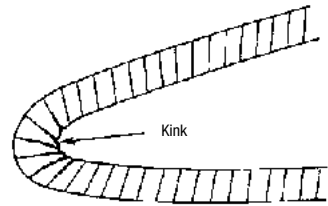

Figure 5.3 Repair Necessary Due to Exceeding Minimum Bend Radius
- The tubing has been bent beyond its minimum bend radius such that a crease or kink remains. (Figure 5.3)